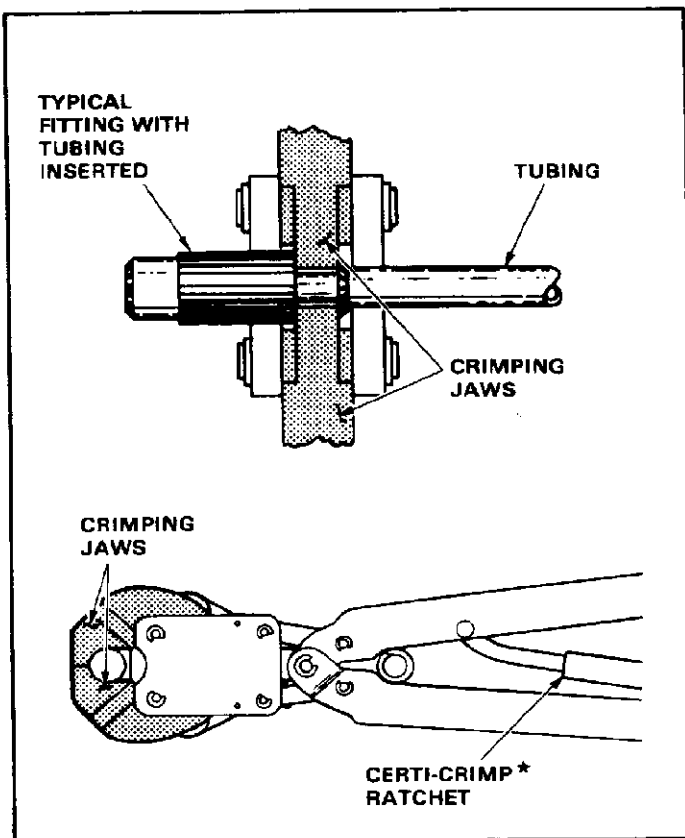

Fig. 3—Crimping Tool 69671
3.03 If crimping with AMP-FIT Hand Tool 69671, as shown in Figure 3, follow the procedures listed in AMP Instruction Sheet IS 2703. If crimping with Hand Tool 68317-1, use AMP Instruction Sheet IS 2730.